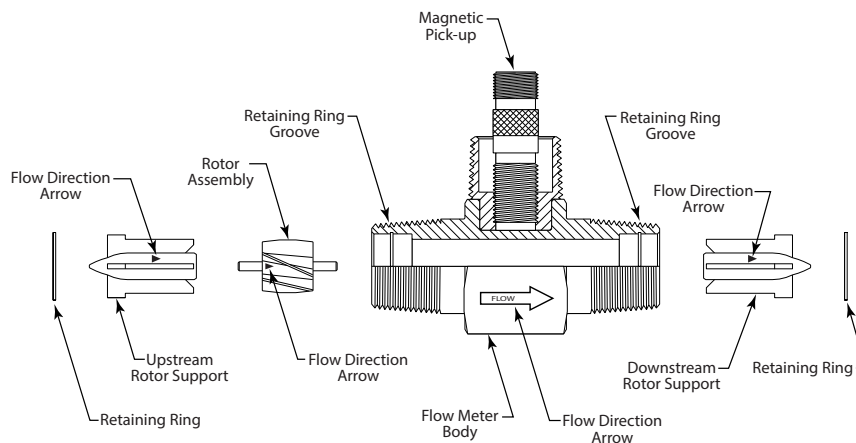
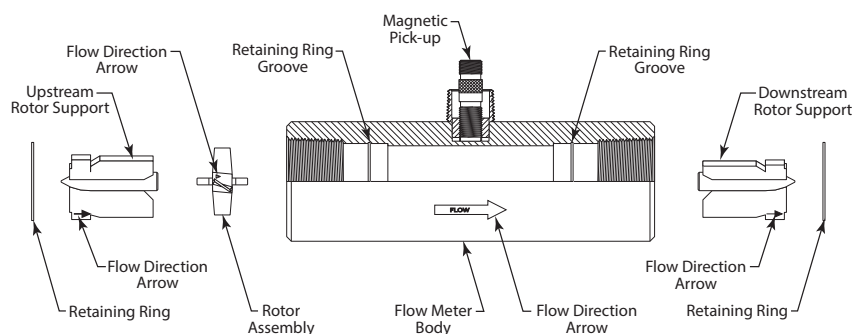
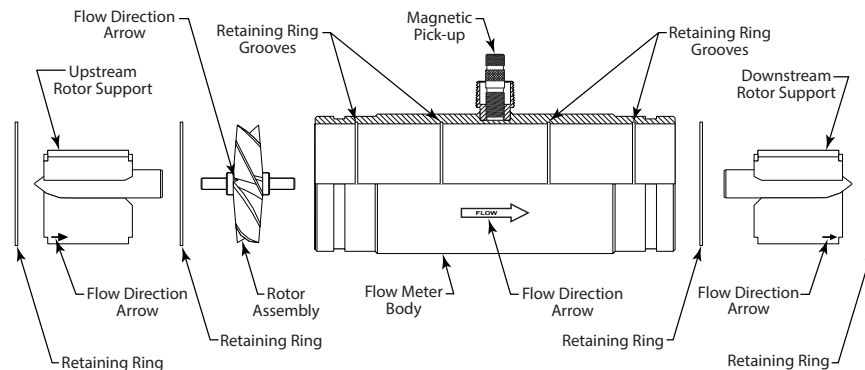

Figure 1: Component positions for B110-375...B111-115 and B111-121
Figure 2: Component positions for B111-120 and B111-130
Figure 3: Component positions for B111-140 and B111-200
1. Refer to Figure 1, Figure 2 and Figure 3 for relative positions of repair kit components.
NOTE: 4 in. and larger meters have two retaining rings (one on either side of the rotor) that require removal before the rotor can be removed (see Figure 3).
Before reassembly, note that an arrow is cast or engraved on each component. The arrow indicates the primary flow direction. When reassembled, the arrowheads must point in the direction of the fluid flow. The arrows must also be oriented in the up position on both rotor supports. The magnetic pickup side of the body signifies the up position. Performance of repair kit calibration is in the up position. Reinstallation of the repair kit in the up position ensures continuation of accurate measurements. Figure 1, Figure 2, and Figure 3 show the proper alignment and orientation of the repair kits.
NOTE: 4 in. and larger meters have a retaining ring at both ends of the rotor (see Figure 3).